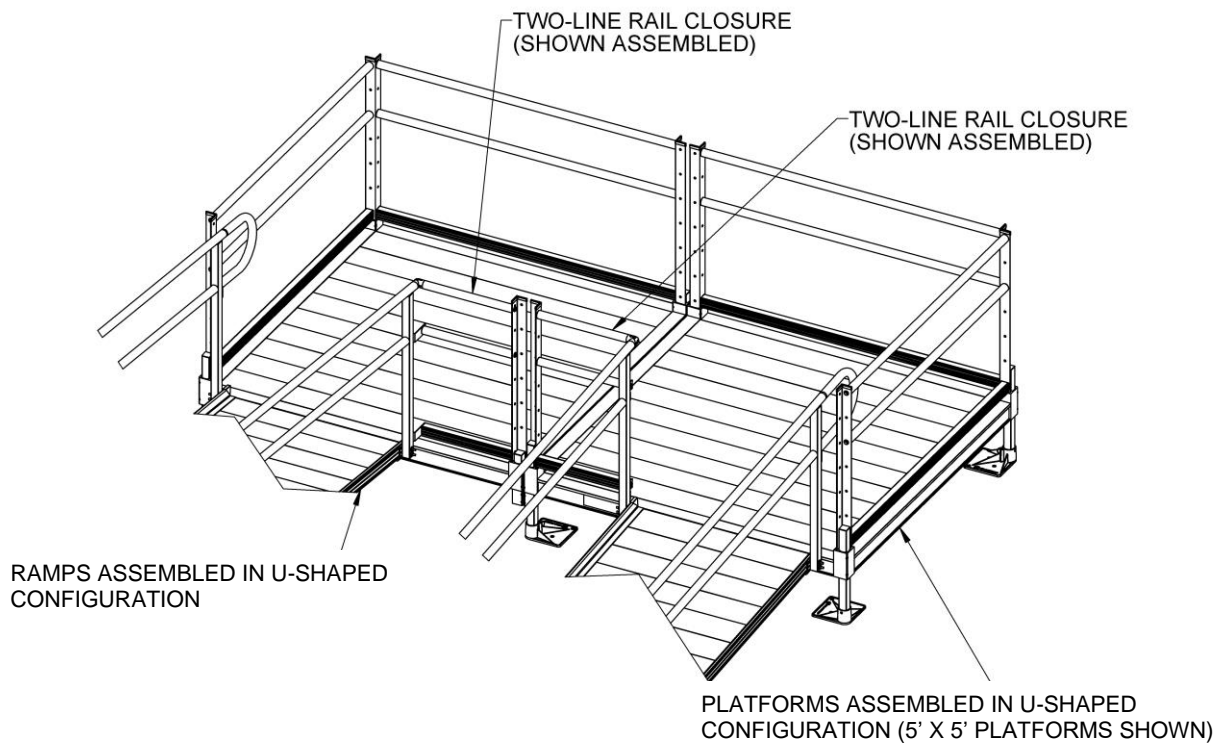

FIG. 6.13
- 6.3.3. FIG. 6.13 shows the completed assembly.